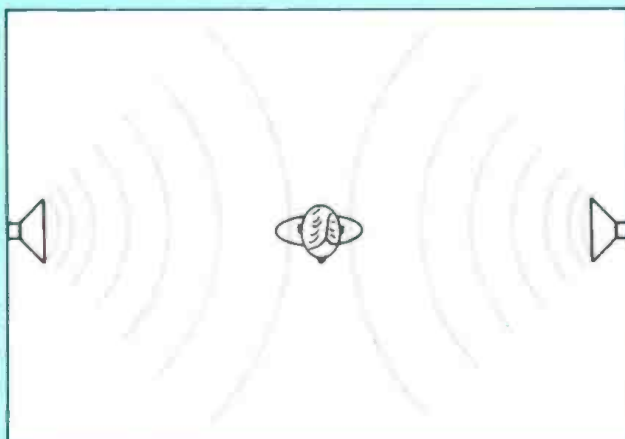

Figure 2A. Perceived low frequency SPL appears lower due to low frequency cancellation.
*Figures 2A, 2B, and 2C* are plots of third-order distortion as a function of recording levels. The cursor has been set in each case to read out the distortion at 0 dB reference recording level, with the actual reading in percent shown at